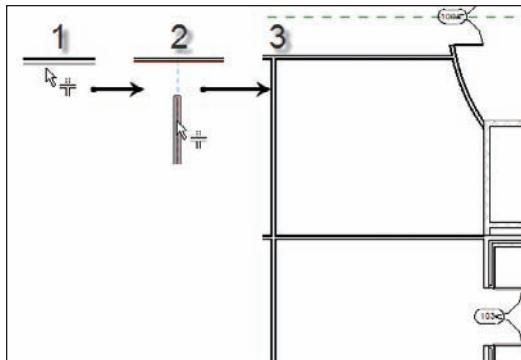

FIGURE 4.46 Stepping through the procedure to extend the wall
4. Pick the vertical wall that does not quite intersect. Press Esc, and your walls should now look like Figure 4.46.